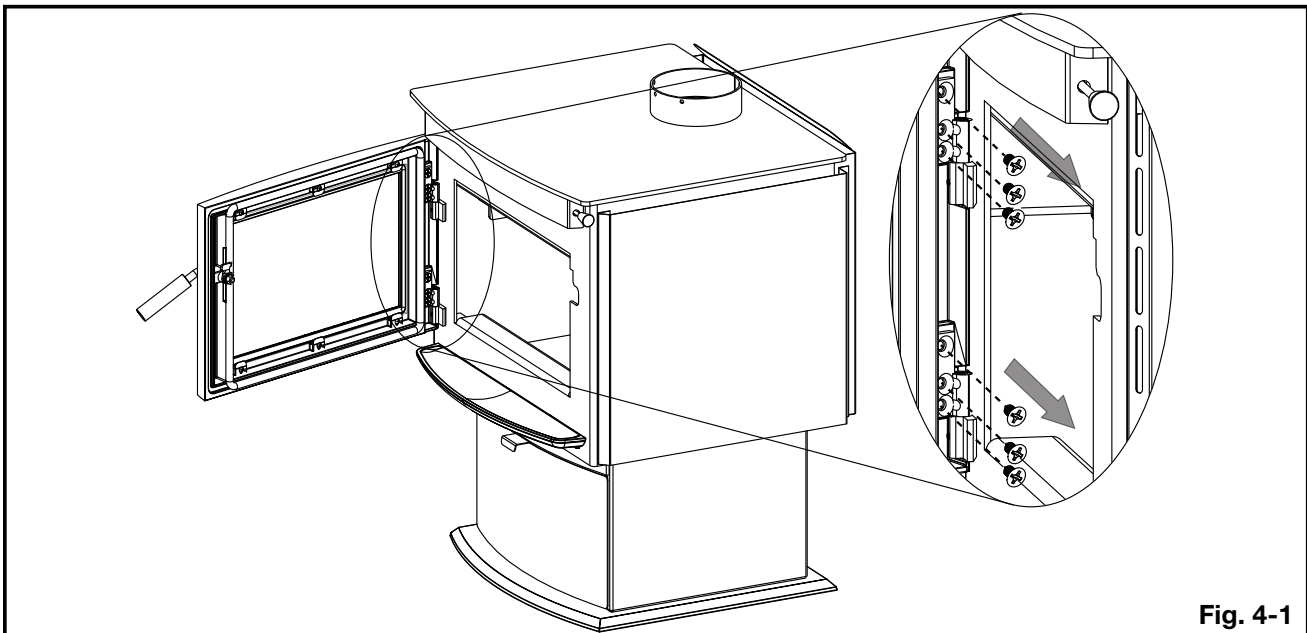

Fig. 4-1
1. With one hand on the door to prevent it from falling, open the door and remove the 6 large screws located on the hinges (**Fig. 4-1**).